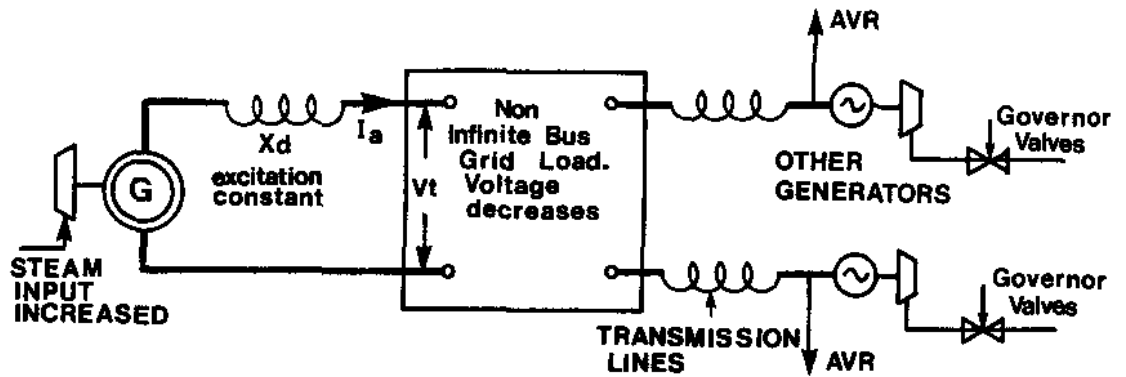

Figure 2: Generator feeding a non-infinite bus grid load:
The generator (with fixed excitation) is on no load connected to a non-infinite bus. The MW load is increased. See Figure 2.
- (d) The fall in terminal voltage will reduce the non-infinite bus voltage. The amount by which the system voltage will fall is largely dependent upon other generators on the system having AVR's which have the ability to correct this voltage drop. It will also depend on the relative transmission line lengths between generators and the load. Figure 2 shows the operational conditions. This situation is most likely to occur where the generation is remote from the load. An example of this is at Bruce where the main loads are distant from the generating station.